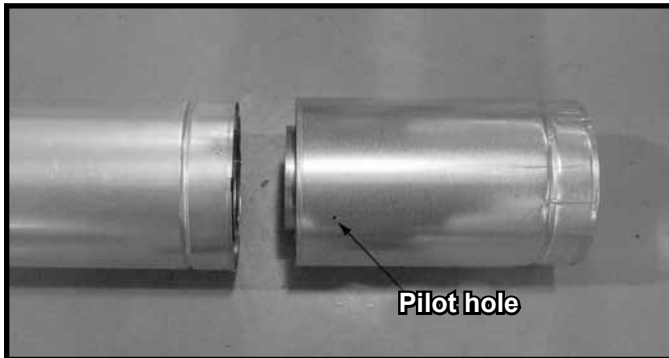

Figure 10.3 Slip Section Pilot Holes
- Slide the inner flue of the slip section into the inner flue of the pipe section and the outer flue of the slip section over the outer flue of the pipe section. See Figure 10.3.